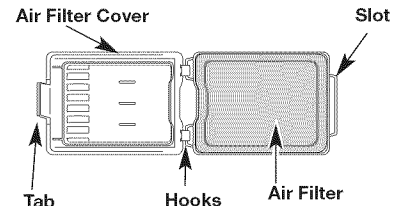

Fig. 19
1. Open the air filter cover. Push the tab on the under side of the cover inward. Then pull the air filter cover out and up. (Fig. 19).
2. Remove the air filter (Fig. 19).
6. Replace the filter (Fig. 19).
7. Reinstall the air filter cover. Position the slots on the top of the air filter cover onto the tabs at the top of the back plate (Fig. 19).
8. Swing the cover down until the tab on the air filter backplate snaps into place in the slot on the air filter cover (Fig. 19).